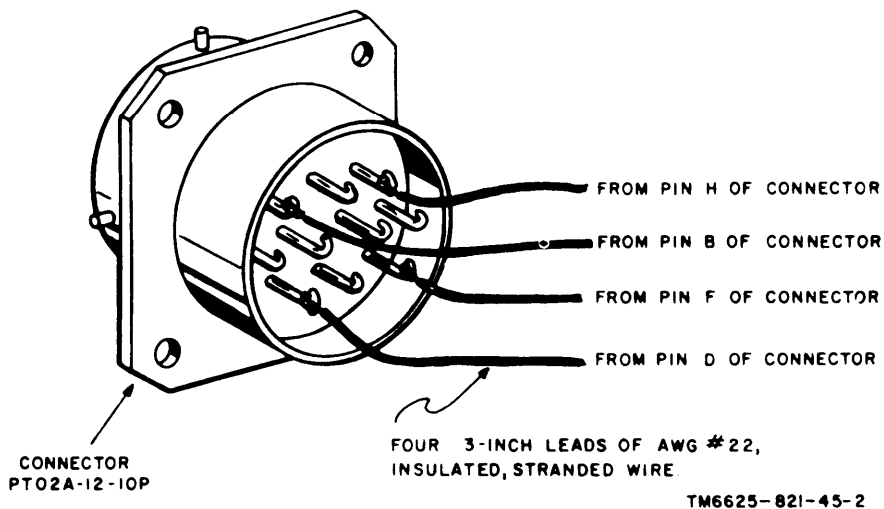

Figure 4-1. Fabricated cable for LOOP SIMULATOR, construction details.
c. Connect the equipment as shown in figure 4-10. A detailed drawing of the fabricated cable is shown in figure 4-1.
(1) Set the POWER ON switch to ON.
(2) Set the range switch to the 450-1500 KC position.
(3) Set the FREQUENCY control to 650 kc.
(4) Set the LEVEL-Q switch to LEVEL, and rotate the ZERO ADJ LEVEL control until the CIRCUIT Q voltmeter reading is 0.
(5) The LEVEL-Q switch to Q, and rotate the ZERO ADJ Q control until the CIRCUIT Q voltmeter reading is 0.
(6) Set the LEVEL-Q switch to LEVEL.
(7) Set the RF ON switch to ON.
(8) Adjust the SET LEVEL FINE and the SET LEVEL COARSE controls until the CIRCUIT Q voltmeter pointer is over the redline on the meter.
(9) Set the LEVEL-Q switch to Q.